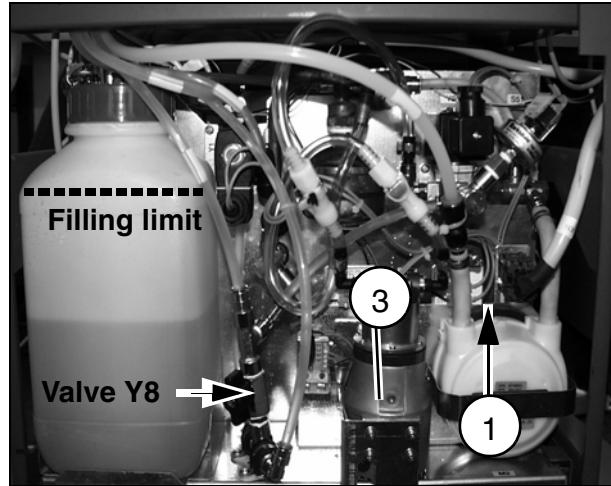

Fig. 11
Emptying the cooling circuit with the new pump (3/Fig. 11)
- Open valve Y8 (Fig. 11),